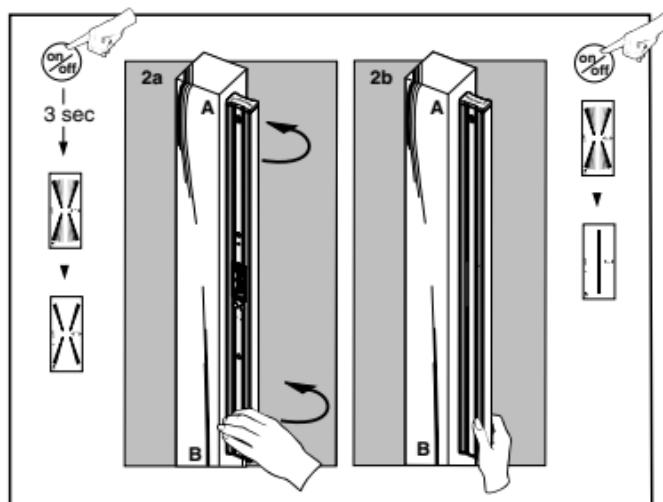

Figure 11: Calibration to Plumb
- When the indicators stop moving and the second audio tone sounds, the number 2 will appear. Rotate the LaserVision 180 degrees while keeping the same end up (Figure 11 below).